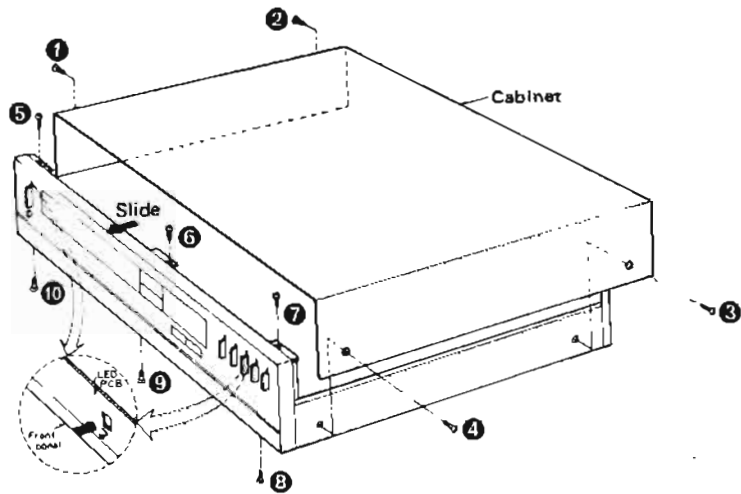

Fig. 1
1. Remove the 4 setscrews (Fig. 1: ① ~ ④) of the cabinet.
1. Remove the 6 setscrews (Fig. 1: ⑤ ~ ⑩) of the front panel.
2. Slide the front panel in the direction of the arrow in Fig. 1 to detach the panel from the chassis.
3. As shown in Fig. 1, remove the 3 lugs to detach the LED indicator printed circuit boards from the back of the front panel.